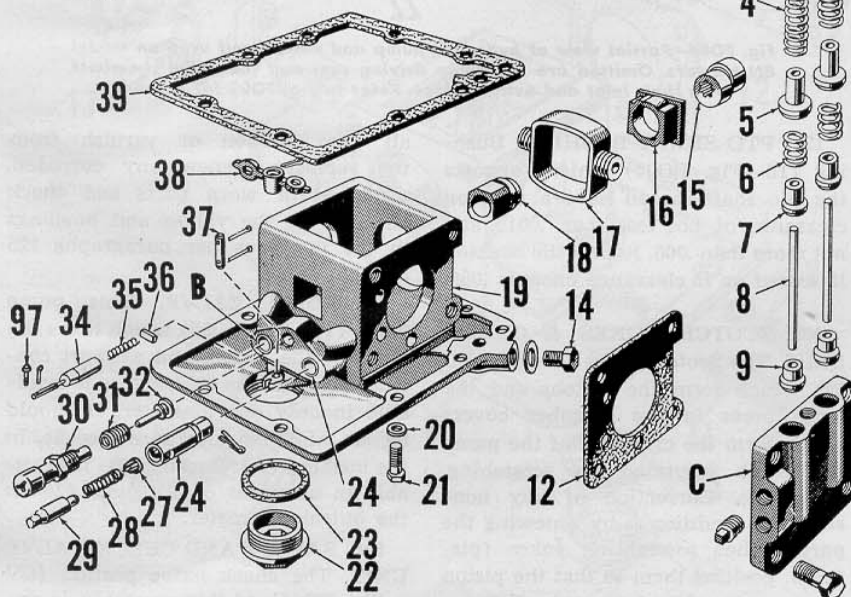
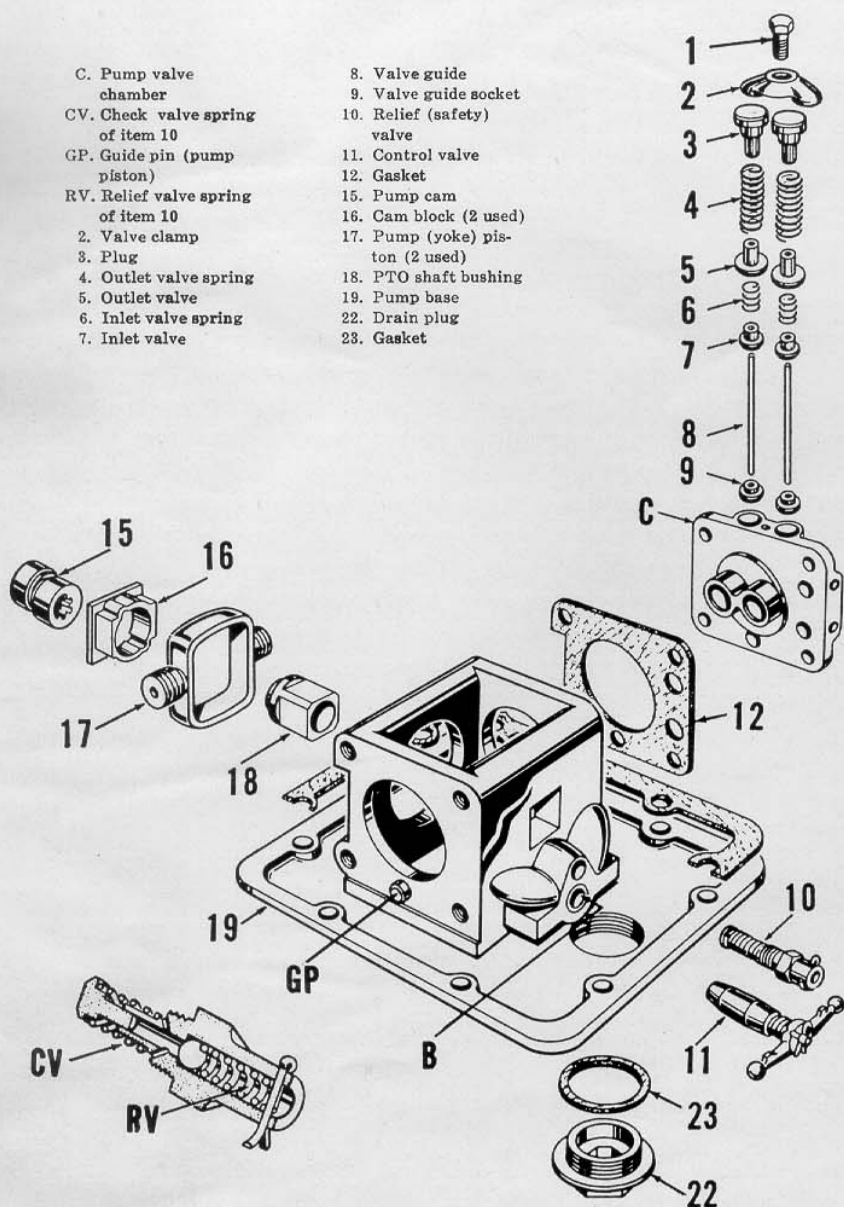
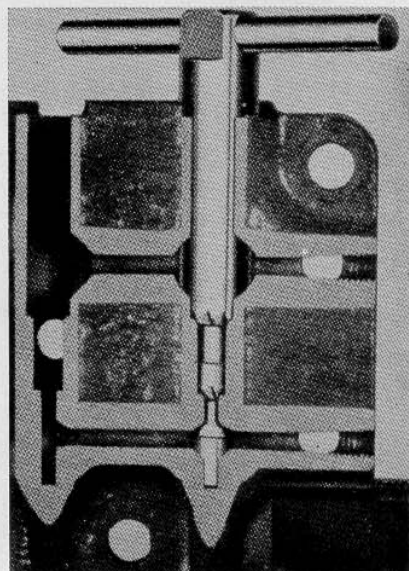

Fig. FO92—Model 8N hydraulic lift pump unit.
Fig. FO95—Models 2N and 9N hydraulic pump unit and related parts.
Fig. FO97—Hydraulic pump inlet and outlet valve seats in pump valve chamber can be reseated as shown.
116. DISASSEMBLE AND OVERHAUL. Procedure for disassembling the pump is self evident after examining the actual unit and by referring to Fig. FO92. When removing the rocker lever (38) hold the control valve (29) in position with one hand to avoid the control valve flying. Order of disassembly is relief valve (30) valve rocker lever (38), intake control valve (29), exhaust control valve (34), both valve chambers (C), cam (15) and piston (17) assembly, pto shaft bushing (18), and disassemble the valve chambers (C).
117. INTAKE CONTROL VALVE. Intake control valve (29—Fig. FO92) is available in 3 diameters to permit
120. INLET AND OUTLET VALVES. Inlet and outlet valves (5 and 7—Fig. FO92) are contained in each of the valve chamber covers. If inspection indicates valves are not seating perfectly same can be reseated using special Ford reseater as shown in Fig. FO97 and the valves can be refaced. If valves leak after this work has been accomplished, make sure that guides (8) and sockets (9) are aligned to give concentric seating and that they are in good mechanical condition.
Fig. FO94—Partial view of hydraulic pump and valves unit used on model 8N tractors. Omitted are the pump driving cam and the valve chambers with their inlet and outlet valves. Refer to Fig. FO92 for legend.
124. DISASSEMBLE AND OVERHAUL. Procedure for disassembling the pump used on models 2N and 9N is self evident after examining the pump and referring to Fig. FO95. This pump differs from the unit used on the 8N tractors mainly in that it is equipped with a single control valve (11) instead of an inlet and an exhaust control valve. The single control valve is T shaped and is operated by the control fork, whereas on the pumps used on 8N tractors the control valves are operated by a rocker lever which in turn is operated by a single control lever.
125. PUMP VALVE. This pump valve (11—Fig. FO95) which takes the place of the intake and exhaust control valves on the 8N tractors is available in only one diameter. It should be a minimum-clearance-free-fit in the bushing (B). Bushing (B) is available in oversizes of .010 and .020 on the outside diameter.
126. SAFETY AND CHECK VALVE UNIT. The check valve portion (CV—Fig. FO95) of this assembly is ex-
127. INLET AND OUTLET VALVES. Inlet and outlet valves (5 and 7—Fig. FO95) are identical to the similar parts used in the 8N tractors. Valves can be reseated by using special Ford reseater as shown in Fig. FO97 and the valves can be refaced. Be sure guides and sockets (8 and 9) are aligned to give concentric seating and that they are in good mechanical condition.
128. PTO SHAFT BUSHING. Bushing (18—Fig. FO95) is identical with bushing used in model 8N tractors and is serviced in same manner as outlined in paragraph 121.
129. SCOTCH YOKES & CYLINDERS. The Scotch yokes (17—Fig. FO95) which form the pistons, and the large bores in the chamber covers (C) which form the cylinders, should be inspected for wear, scratching, etc. Correct any non-standard condition by renewing the parts. When assembling yokes (pistons) to pump, position them so that the piston portions are closest to each other. Pistons and cylinders are the same as used in 8N tractors.
- CV. Check valve spring of item 10
- RV. Relief valve spring of item 10